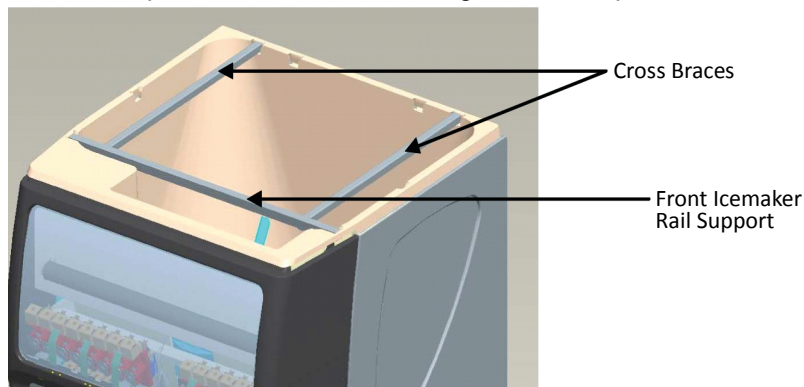

Figure 2.
2. Place icemaker support rail into pockets in the ice bin as shown in Figure 2.